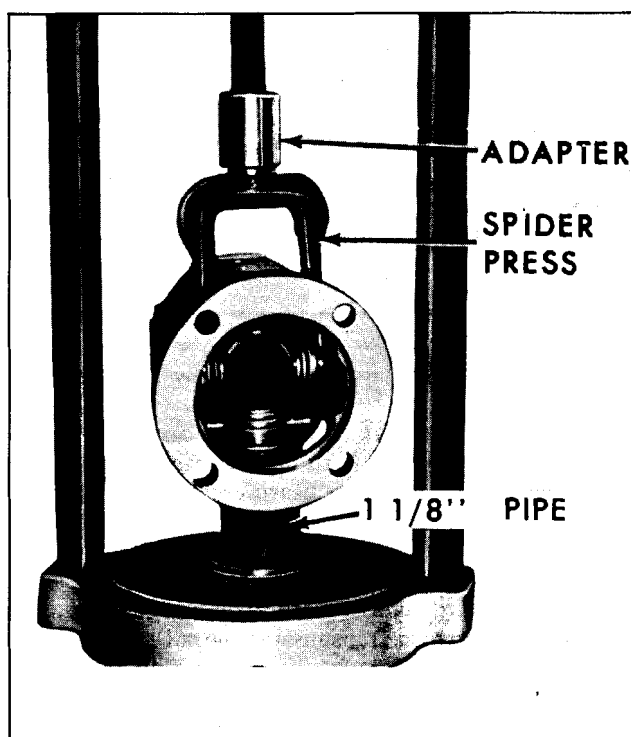

Fig. 4E-13 Disassembling Double Cardon Rear U-Joint
1. Mark yokes with a punch or scribe before disassembly to insure reassembly in their original position to maintain proper balance (Fig. 4E-12).